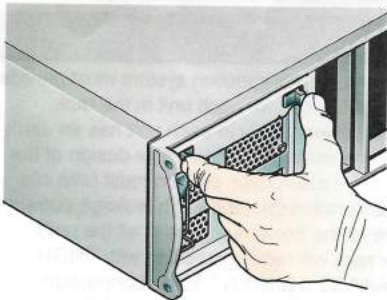

Figure 3
4. Cam the module home by manually closing the PSU handle (see Figure 3). A click should be heard as the handle latches engage.
2. Squeeze the two latches on the PSU handle together and open the handle (Figure 3) to cam the PSU/Cooling module out of the enclosure.